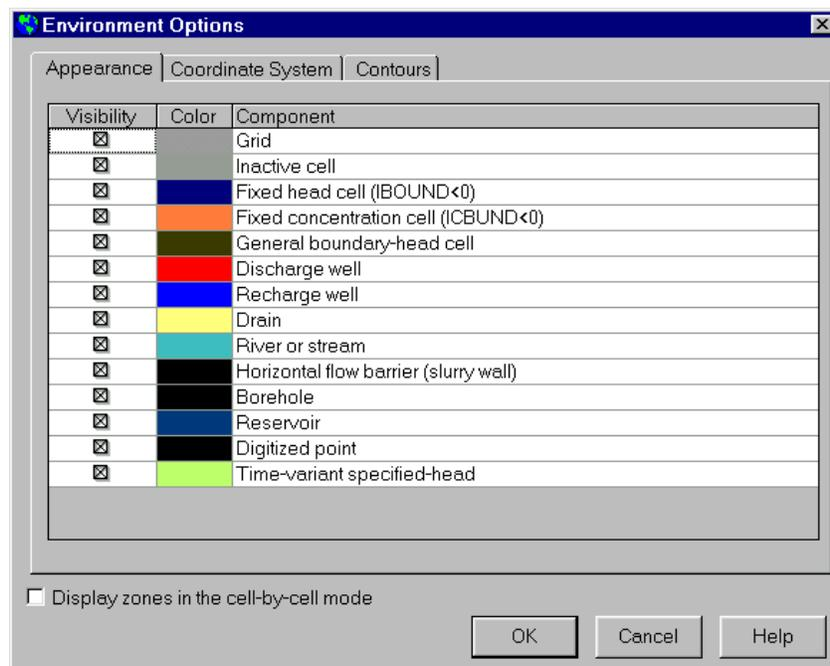

Fig. 1.12 The **Environment Options** dialog box
6. Choose **Environment** from the **Options** menu (or Press Ctrl+E). The **Environment Options** dialog box appears (Fig. 1.12). The options in the **Environment Options** dialog box are grouped under three tabs. **Appearance** and **Coordinate System** allow the user to modify the appearance and position of the model grid. Use **Contours** to generate contour maps.